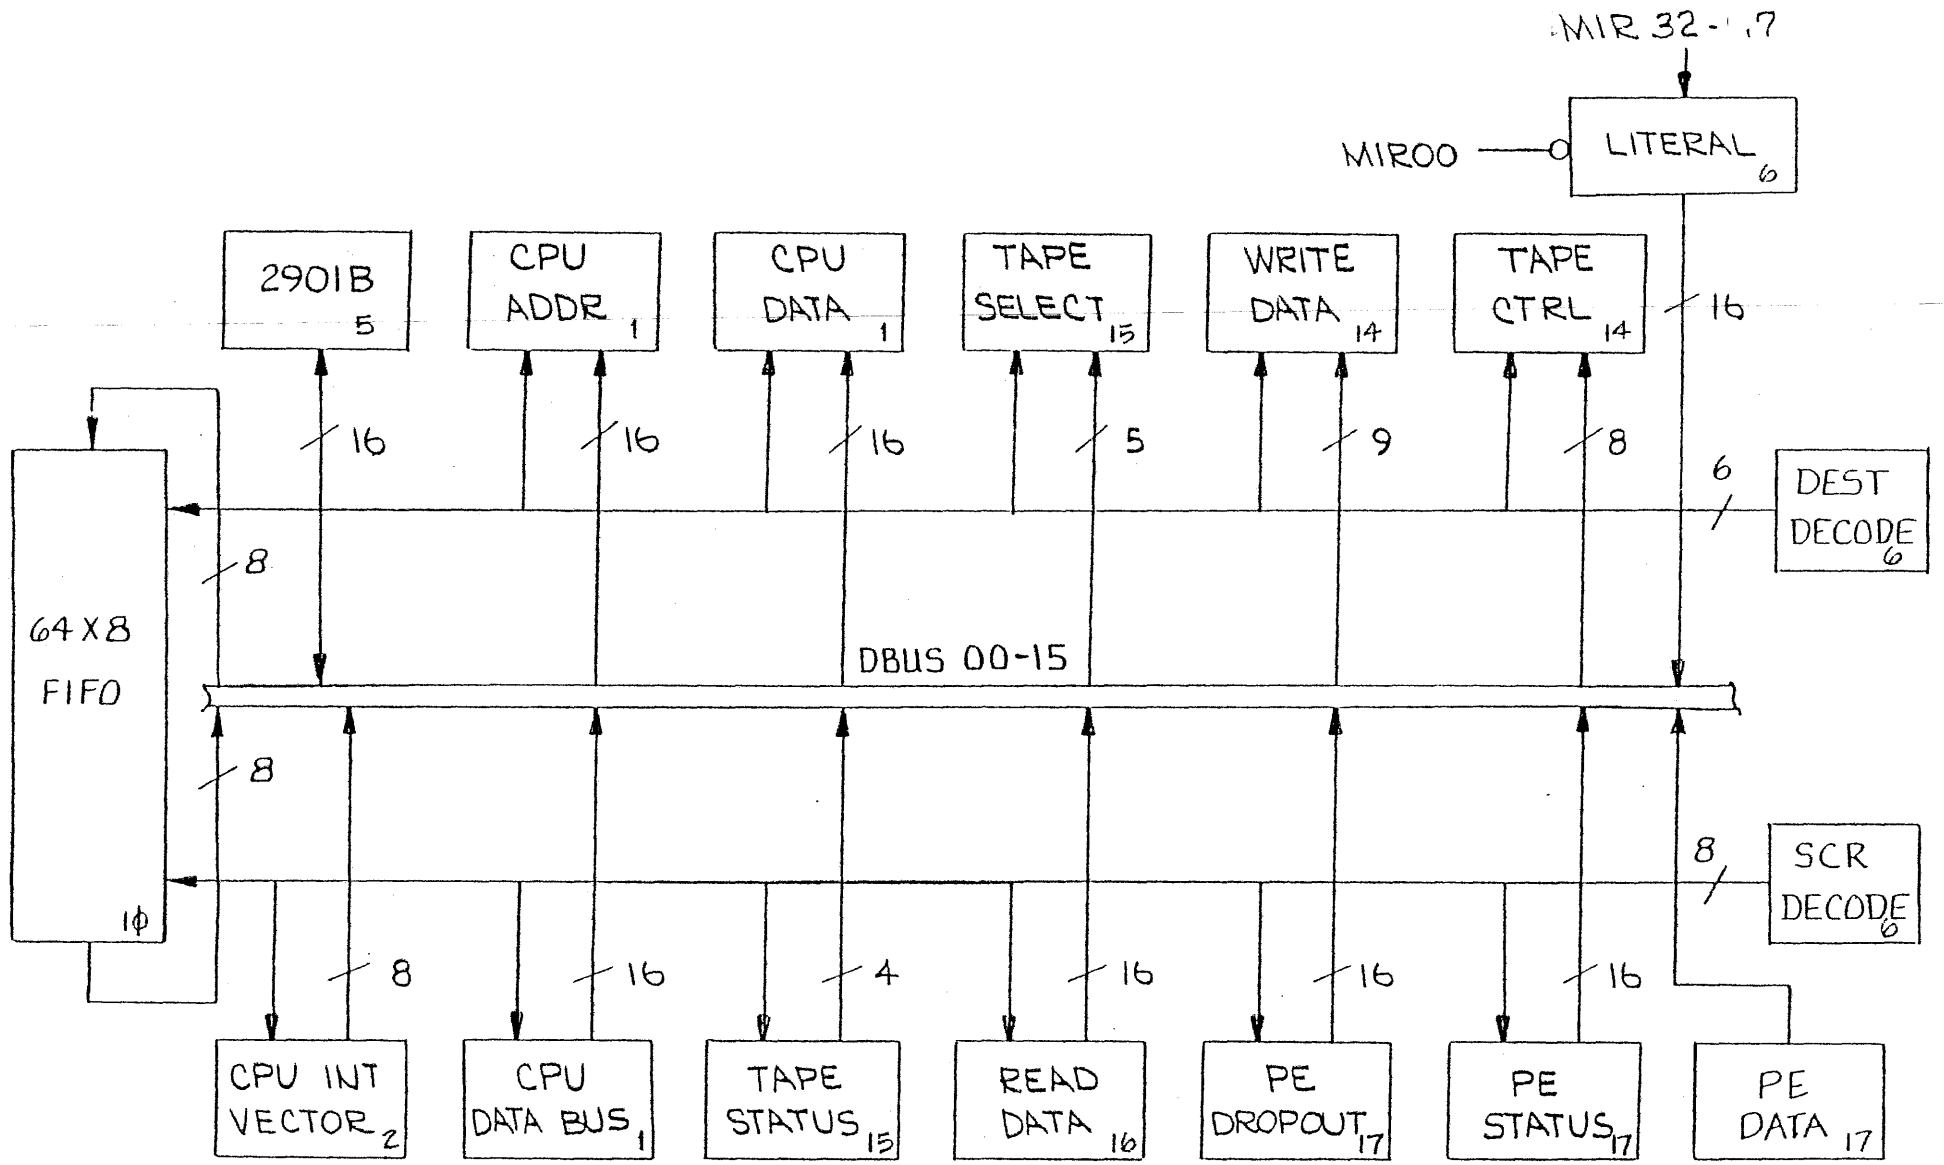

FIGURE 4-18A DATA PROCESSOR
4.41 Data Processor. The data processor consists of the four 2901's and the control logic for external data sources and destinations. Refer to Figure 4.18A for a block diagram of the data processor.